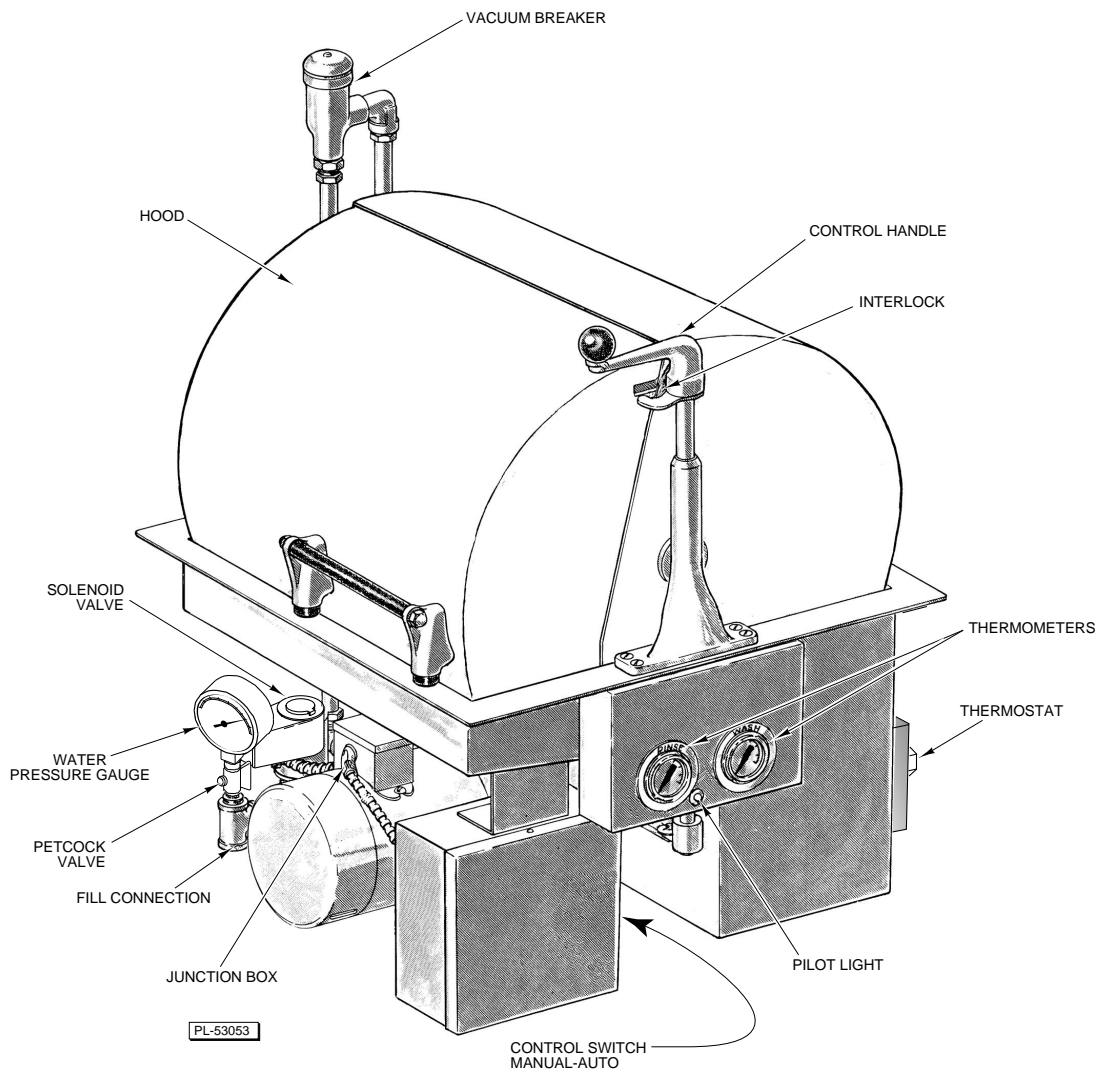
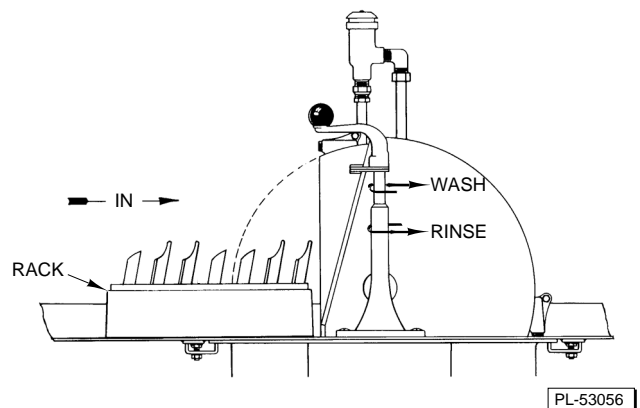
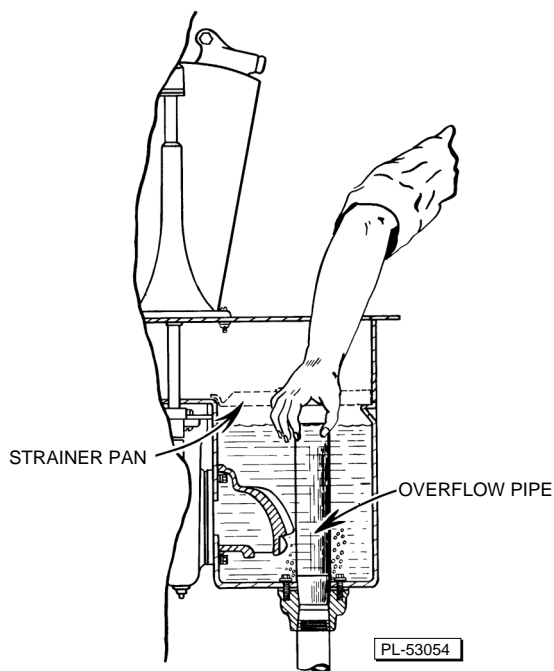

Fig. 1
Fig. 2
Fig. 3
The water supply connection point has a 1/2" NPT internal thread (see FILL CONNECTION, Fig. 1). The water supplied to this machine must be 180°F and have a flow pressure of 20 – 25 psig for most effective rinsing. **CAUTION: The water pressure regulator must have a relief by-pass. Failure to use the proper type of pressure regulator may result in damage to the unit.** After installation, a pressure gauge must be visible and access must be available to service connections and areas which require cleaning.
Make the main electrical connection at the motor junction box (Fig. 1) where a knockout for 1/2" conduit is provided. Make the electrical connection for the electric heater circuit at the electric box for the electric heater where a knockout for 1/2" conduit is provided. Refer to the wiring diagram attached to the inside of the control box cover. All electrical supply lines to the machine must be disconnected when disconnection is required.
The hoods are interlocked with the Control Handle (Fig. 1) which prevents operation of the automatic wash and rinse cycle with a hood open. Also, the hoods cannot be opened while the dishwasher is in an automatic wash and rinse cycle.
Be sure that the Overflow Pipe (Fig. 3) is properly seated. Then close the hood and turn the Control Handle to the rinse position (Fig. 2). Hold it there until the wash tank is filled to the top of the Overflow Pipe.
- With the Overflow Pipe properly seated, fill the tank to the top of the Overflow Pipe by turning and holding the Control Handle in the rinse position (Fig. 2).
- Put Strainer Pans (Fig. 3) in place. Scatter the initial charge of detergent over the Strainer Pans.
Stack the dishes in a rack. Do not stack dishes one on top of another as water must have free access to all sides of every dish. Stand plates and dishes up edgewise as shown in Fig. 2. Cups, glasses, and bowls should be inverted in an open-type or compartment type rack. Silverware and other small pieces may be scattered loosely over the bottom of a flat bottom rack.
Open the hood and slide in a rack of dishes. Have the rack turned so the plates stand at right angles to the edge of the table (Fig. 2). Close the hood. With the Control Switch turned to the Auto position and the hoods closed, turn the Control Handle to ON and the timer motor will start.
The timer then lights the Pilot Light and starts the pump motor. The Pilot Light (Fig. 1) stays on until the cycle is completely finished. The wash pump operates for 73 seconds, then stops. A pause of 3 seconds follows to allow the wash water to drain from the dishes. Then, the rinse solenoid comes on for 12 seconds to complete the 88 second timed cycle. When the rinse shuts off, the Pilot Light goes out. Turn the Control Handle to neutral.
The Control Switch (Fig. 1) in the center position (between Manual and Auto) provides only a Manual Rinse (or Fill) operation — if the Control Handle is turned to Rinse (Fig. 2).
With the Control Switch turned to the Manual position, the auxiliary circuit allows the dishwasher to operate manually using the Control Handle in the Wash and Rinse positions (Fig. 2). The same 73 second wash, 3 second pause, and 12 second rinse cycles should be used when the dishwasher is operated manually as when operated by the automatic timer.
- Remove the Strainer Pans (Fig. 3) and empty contents into garbage can or disposer.
- Lift out the Overflow Pipe (Fig. 3) and let the water drain out.